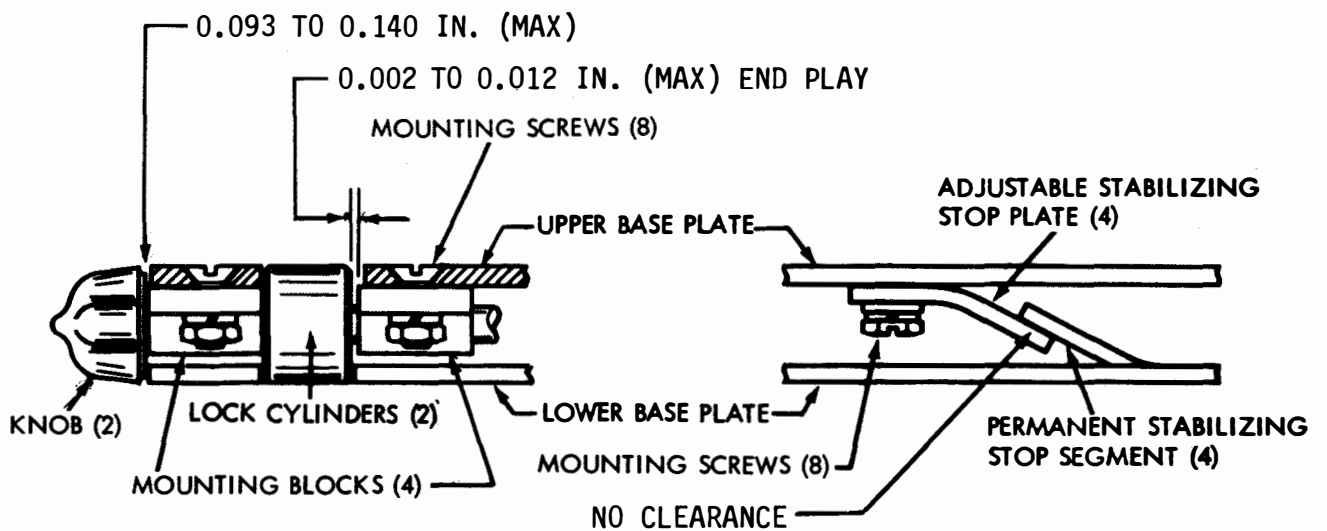

Figure 6-162. Quick-Disconnect Knob, Quick-Disconnect Latch, and Stabilizing Bracket
to figure 6-162.
1. Refer to figure 6-162.